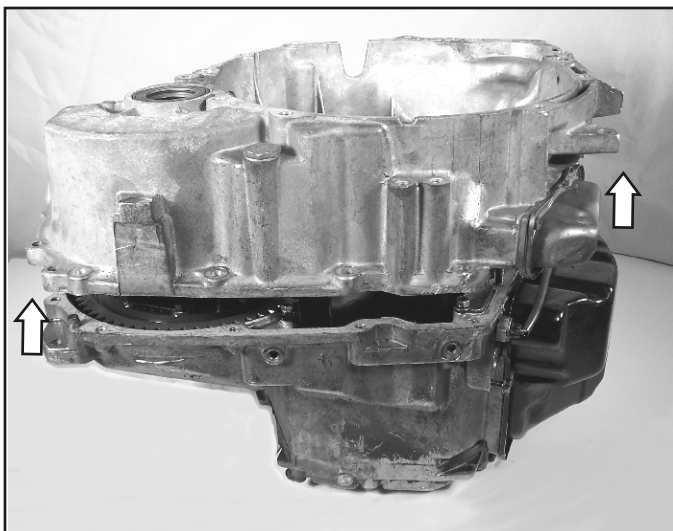

Figure 48
8. Using a rubber mallet, tap the bellhousing evenly in the direction of the arrows shown in Figure 48 and set it off to the side.